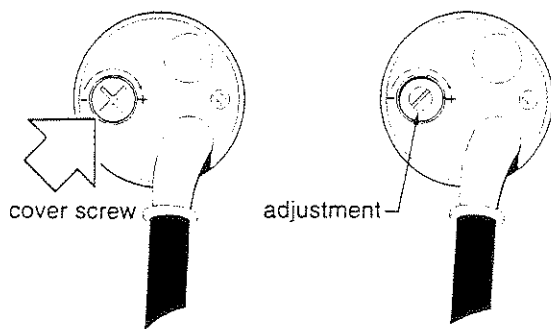

Fig. 17 Sensitivity adjustment
2. **REMOVE COVER SCREW** The cover screw at the back of the level detector covers the sensitivity adjustment (fig. 17). Remove the cover screw and O-ring. The O-ring provides a seal against dirt and moisture.
Rotating the sensitivity adjustment (fig. 17) clockwise increases the detecting distance. Turn the exposed sensitivity adjustment clockwise (+ direction arrow on the detector) until the detector switch is turned on (detector light on). Note the position of the screwdriver slot.